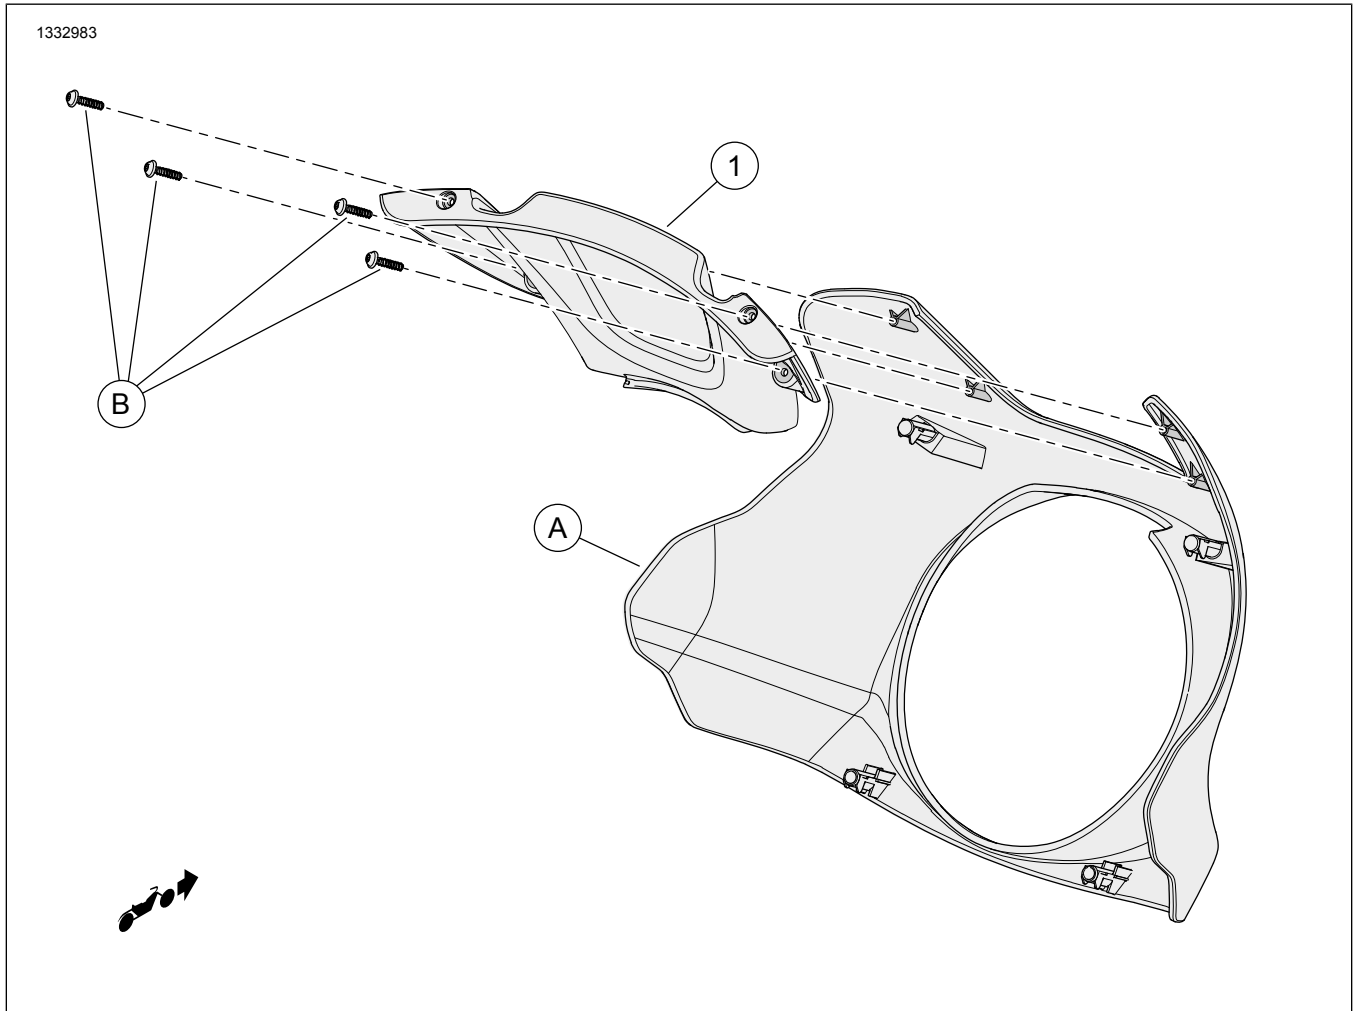
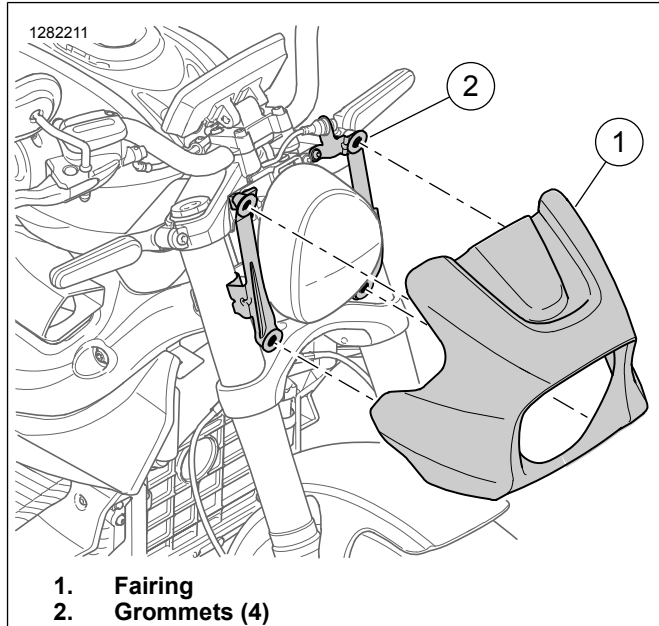

Figure 1. Kit Contents: Speed Screen Components
Figure 2. Front Fairing
1. Figure 2 Remove outer fairing (1) from grommets (2).
- a. Pull fairing (1) by pulling directly forward on outer edge towards front of vehicle.
2. Figure 1 Remove OE screws (B).
3. Remove OE wind screen (1).
3. Figure 2 Install outer fairing (1).
- a. Align fairing (1) with grommets (2).
- b. Install fairing (1) on grommets (2).